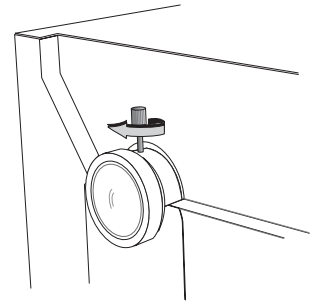

Figure 13.
- (f) Loosen the lock screw on the barrel of the lens. (Figure 13.)